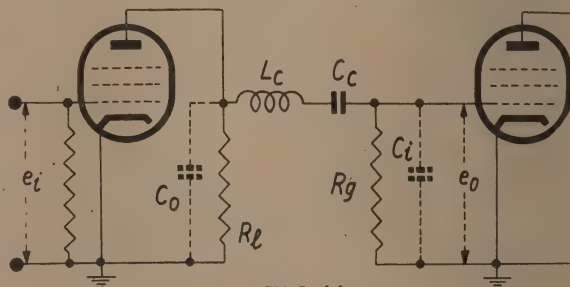

FIG. 11
M.A. MacL., Wanganui, writes: "In the January, 1947, issue of your magazine you give a series-peaked circuit for wide-band amplifiers. This is on page 29, Fig. 11. Could you please give me a few details of the calculation and formulae in designing this circuit for any particular case."